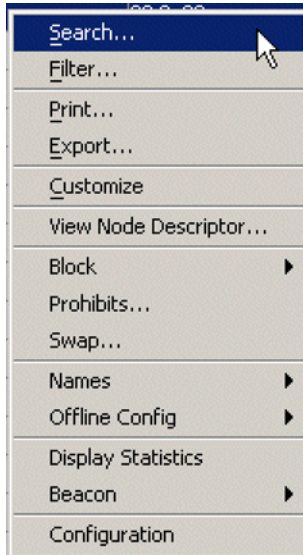

Figure 50. Port Config right-click menu
1. Right-click anywhere on the **Port Config** window. The menu shown in Figure 50. appears.